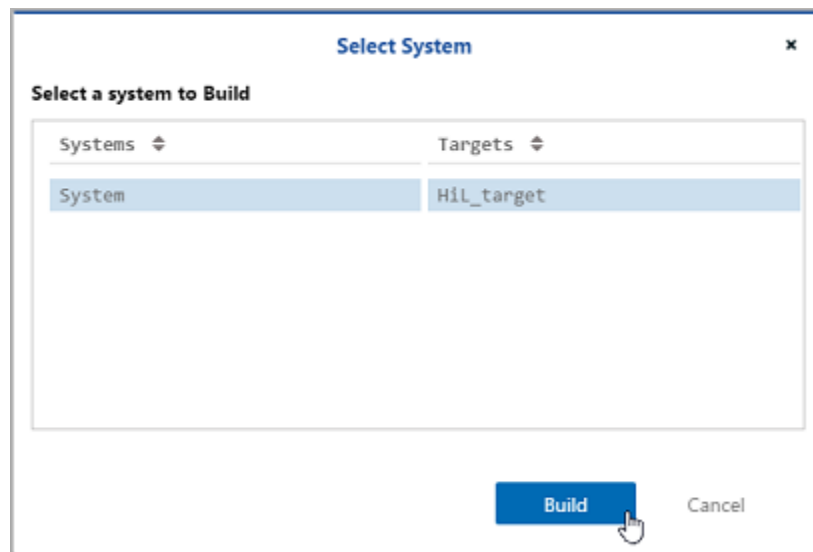
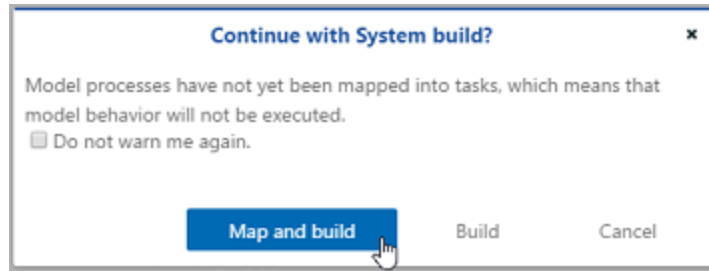

Figure 59. Build on HiL target.
Figure 60. Map and Build.
6. In the COSYM menu bar, select Project -> Build and Run. Select the HiL target to 'Build' on (Figure 59) and if prompted, allow COSYM to automatically 'Map and Build' the project (Figure 60). This process will launch Experiment Environment.